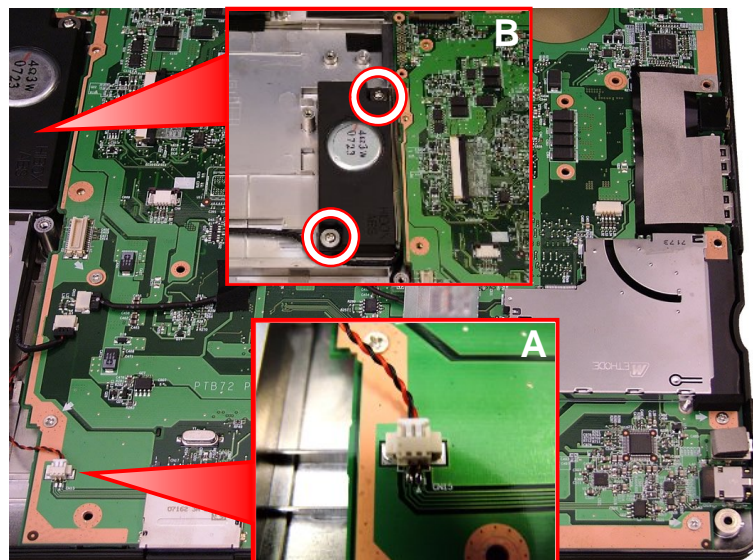

Fig. 27 Location of subwoofer and cable.
1. Disconnect the subwoofer cable from the main board (see Fig. 27-A).
2. Remove the 2 screws securing the subwoofer and lift it out (see Fig. 27-B).